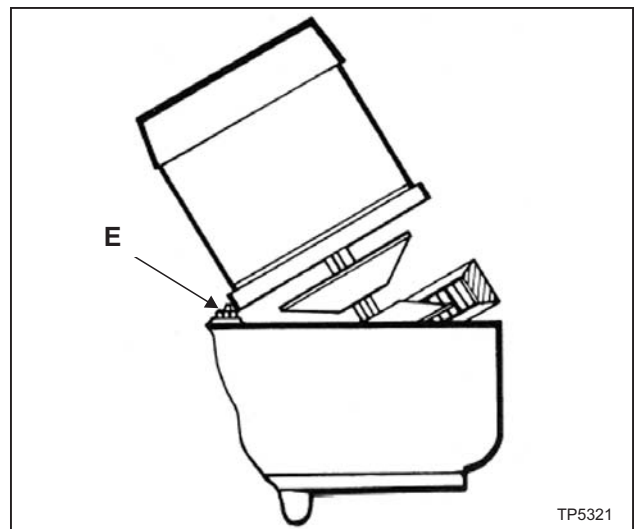

Figure 3.2 - Motor Removal
8. Lift the motor and rest the case on stud "E", Figure 3.2.